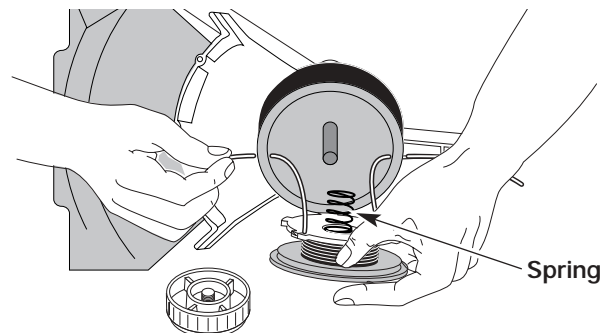

Fig. 32
- Insert the ends of the line through the eyelets in the outer spool and place inner reel with spring inside the outer spool (Fig. 32). Push the inner reel and outer spool together. While holding the inner reel and outer spool, grasp the ends and pull firmly to release the line from the holding slots in the reel.
5. Insert the ends of the line through the eyelets in the outer spool (Fig. 32).